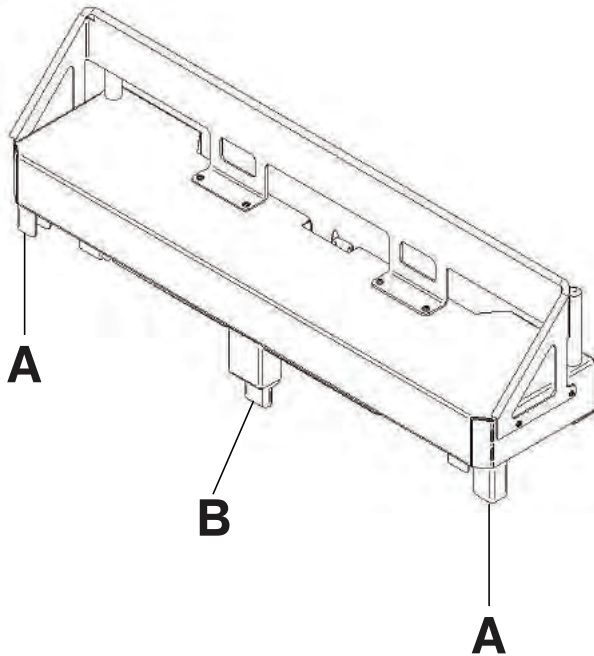

Figure 118: Attaching the optional bed extender
3. Insert the optional bed extender legs (A) and the footboard connector (B) onto the foot end of the product (Figure 118 on page 102).